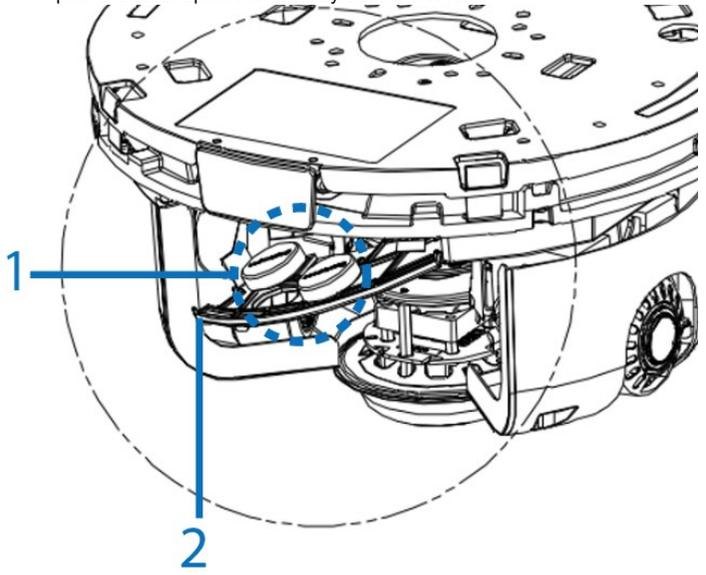

Figure 10
16. Pull the cover (2) (Figure 10) downward.
17. Insert the two new desiccant bags (1) (Figure 10) onto the cover and then push the cover upward to securely close the cover.
**Note:** Each camera lens has a lock and unlock mechanism. See Figure 10.